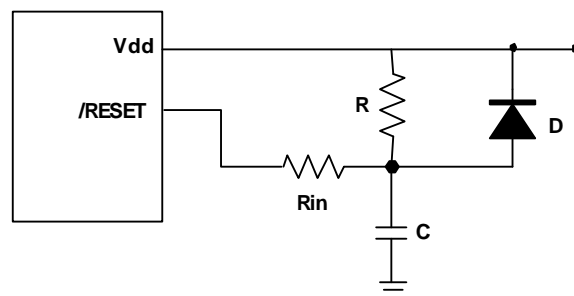

Fig. 37 External Power-Up Reset Circuit
For some applications that do not need a very precise timing calculation, the RC oscillator (Fig. 37) offers a lot of cost savings. Nevertheless, it should be noted that the frequency of the RC oscillator is influenced by the supply voltage, the values of the resistor (R_{ext}), the capacitor (C_{ext}), and even by the operation temperature. Moreover, the frequency also changes slightly from one chip to another due to the manufacturing process variation.
The circuit shown in Fig.37 implements an external RC to produce the reset pulse. The pulse width (time constant) should be kept long enough for Vdd to reached minimum operation voltage. This circuit is used when the power supply has slow rise time. Because the current leakage from the /RESET pin is about $\pm 5\mu\text{A}$, it is recommended that R should not be greater than 40 K. In this way, the /RESET pin voltage is held below 0.2V. The diode (D) acts as a short circuit at the moment of power down. The capacitor C will discharge rapidly and fully. Rin, the current-limited resistor, will prevent high current or ESD (electrostatic discharge) from flowing to pin /RESET.